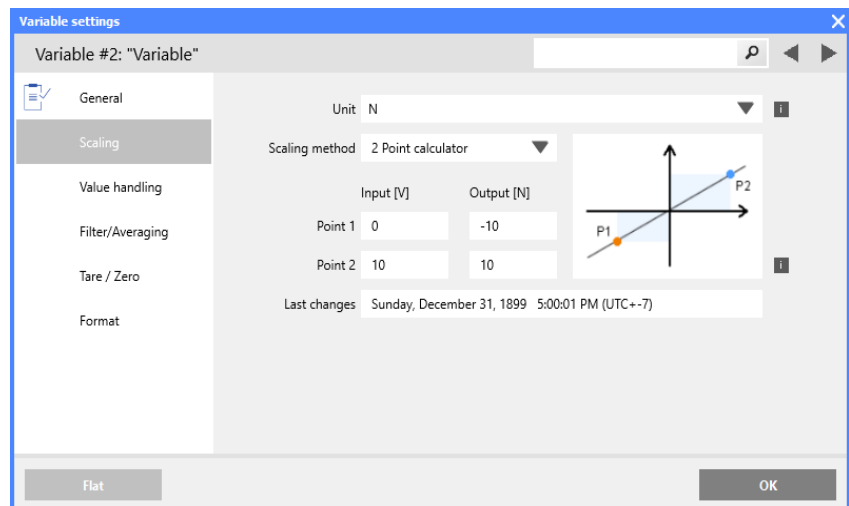

Fig. 7-2 Scaling options for voltage using 2 Point calculator
3. In the **Scaling** options of the *Variable settings* window in *GI.bench*, you may enter a transducer's (sensor's) calibration data from a respective calibration certificate or data sheet (e.g., refer to Fig. 7-2, page 153) using **2 Point calculator** as the **Scaling Method**.